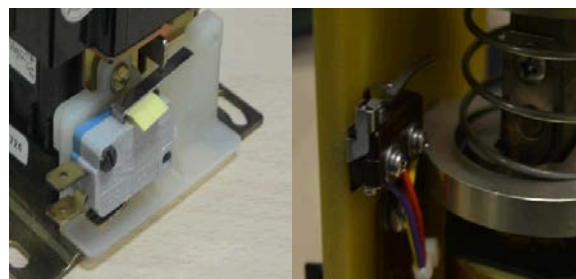

Figure 1. Micro Switch
High voltage start is controlled by the CONTROLLER CCA (control logic unit) control signal to control the AC contactor pull, and then return to the state by a return to determine the AC contactor to pull the state, if the return signal is abnormal, the panel indicates "STRATER OR AC FAULT Alarm information. The entire high-pressure status indication circuit, and its associated sensors are: ① RKS-11DX-12 relay: INTERLOCK CCA (interlock unit) on the K1 and K2; ② MICRO SWITCH micro switch: AC contactor with the micro switch. One relay is to control the role of 110V power on and off, the role of micro-switch is to return to the state of the AC contactor pull. Figure 1 on the left for the Furnas AC contactor on the micro switch, the right for the 14-C-120A AC contactor on the micro-switch, are pin-type, US manufacturing, life can be more than 800W times.